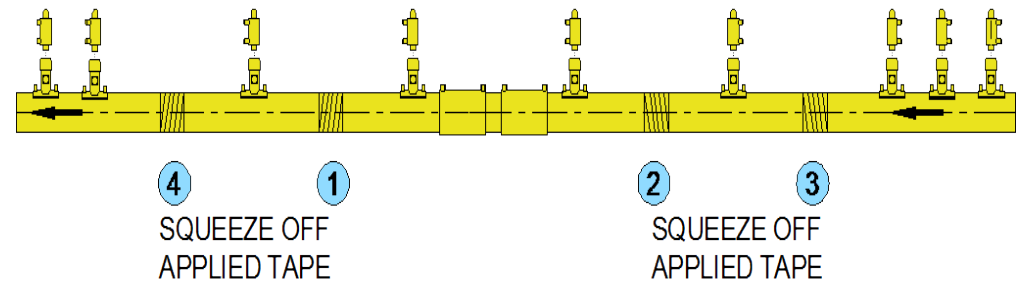

Figure 57-Squeeze-Off Tape
1. Remove flame trap on the top of vent E, see Figure 57.
- Place 'Squeeze off applied' marker tape onto the pipe see Figure 57.